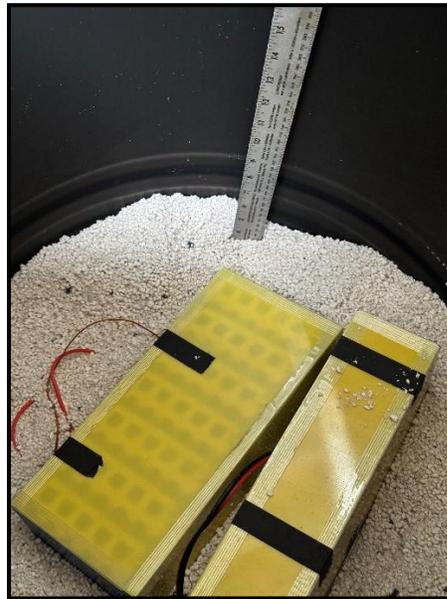

Figure 2
- The 30-gallon poly drum was pre-filled with approximately 3 inches of AkkuGrain at the base before the first battery was placed in the container. Figure 2 illustrates the same.